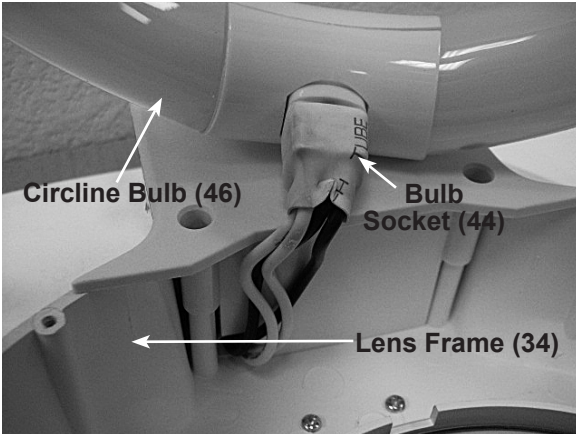

Fig. 6.)
8. Fasten the Bulb Support Latch back into place. (See Fig. 6.)
9. Lower the Bulb into place in the Lens Frame (34).
10. Re-attach the three Bulb Clips (47) and screws securing the Bulb back in the Lens Frame.
11. Place the Clear Cover (45) back onto the Lens Frame and align the screw holes.